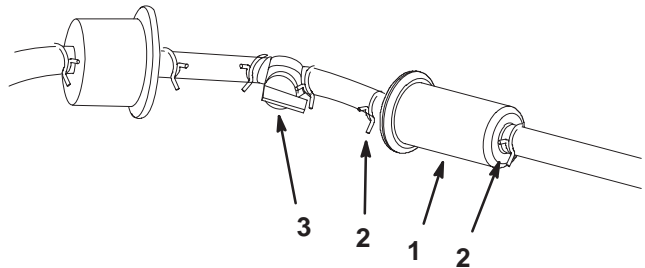

Figure 47
4. Close the fuel shut-off valve (Fig. 47).
5. Squeeze the ends of the hose clamps together and slide them away from the filter (Fig. 47).
7. Install a new filter and move the hose clamps close to the filter (Fig. 47).
9. Open fuel shut-off valve (Fig. 47).